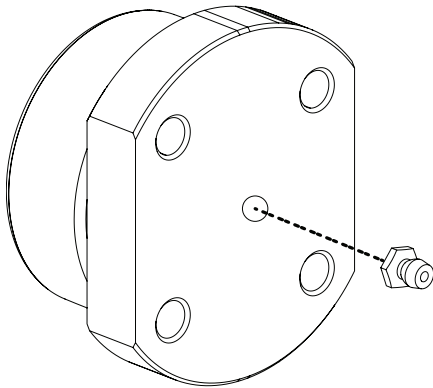

Figure 5
10. Use a 1/4" drive set with a 5/16" socket wrench to remove and retain the grease zerk from the **new roller (PN 1541824)** (Figure 5).